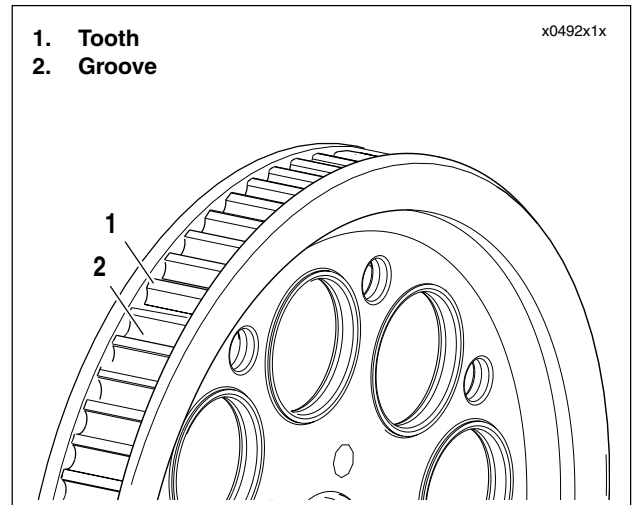

Figure 1-29. Rear Sprocket
1. See Figure 1-29. Inspect each tooth of rear sprocket for: